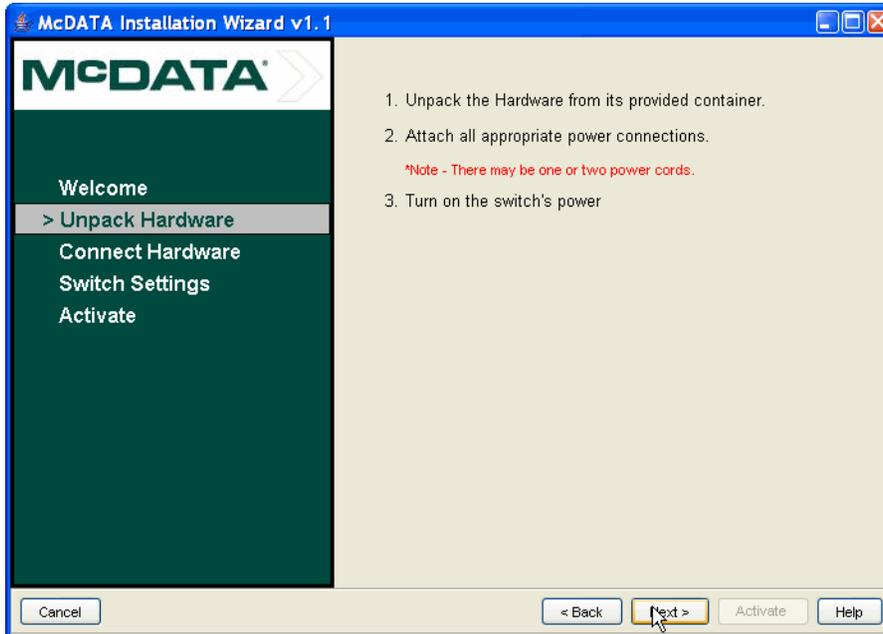

Figure 17 SANplicity wizard unpack screen
2. Read the welcome screen and then click **Next** to proceed to the step shown in Figure 17 on page 17.